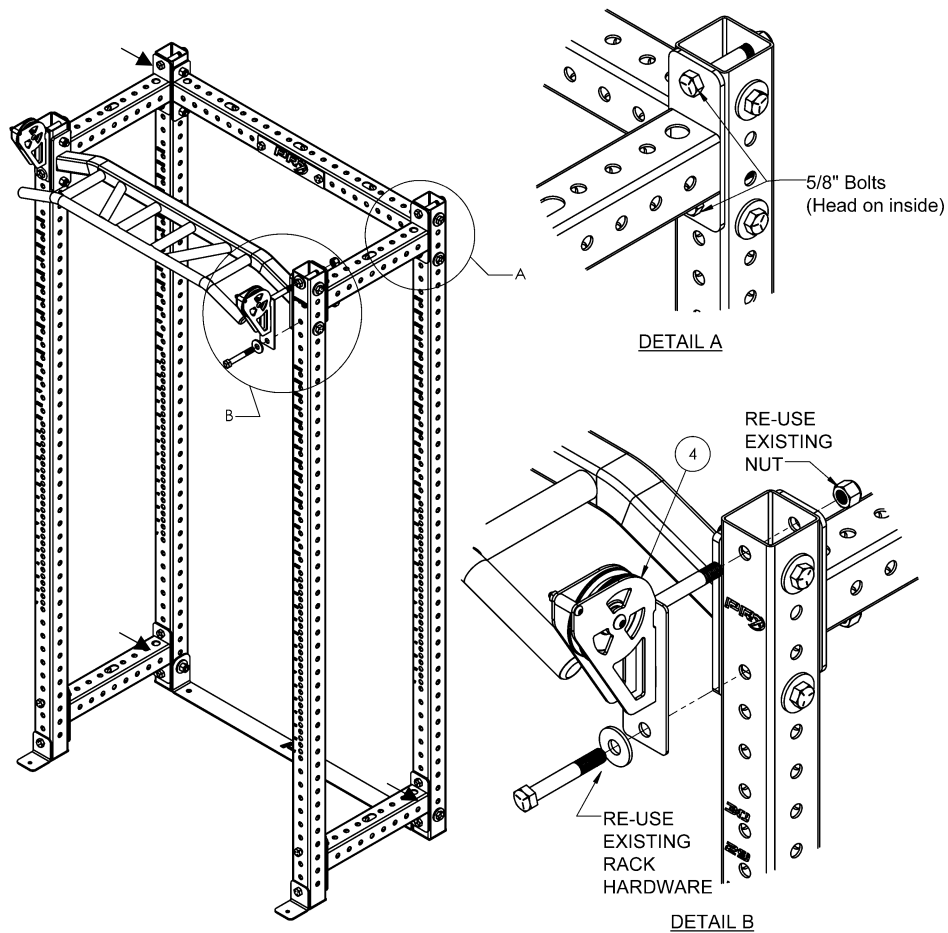

Figure 2
1. Before attaching any brackets to the rack, make sure the 5/8" bolts at the back of the rack are installed with the heads to the inside of the rack, both top & bottom of rack. **Figure 2, Detail A**
2. Start by attaching the Single High Pulley Brackets (4) to the front upright.
*NOTE: 5/8" bolt at top of upright will be replaced by the threaded stud on the Single High Pulley Bracket (4) and fastened by re-using the 5/8" nylock nut. Bottom of bracket (4) will be fastened using the existing 5/8" hardware as well. **Figure 2, Detail B***
3. Attach Single High Pulley Bracket (4) to both sides of rack and fully tighten all hardware.